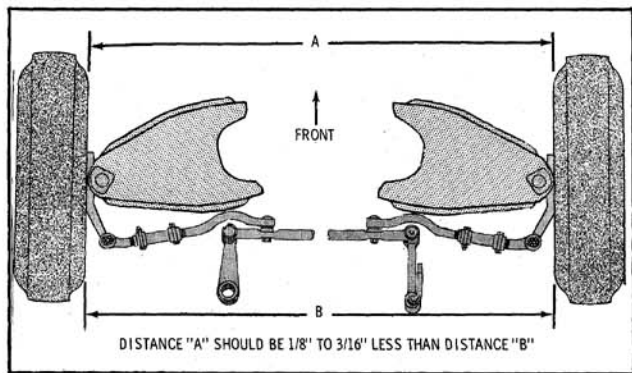

Fig. 9-33 Front Wheel Toe-In
3. TOE-IN (Fig. 9-33)
#### **TOE-IN ADJUSTMENT (1/8" to 3/16")** (Fig. 9-33)